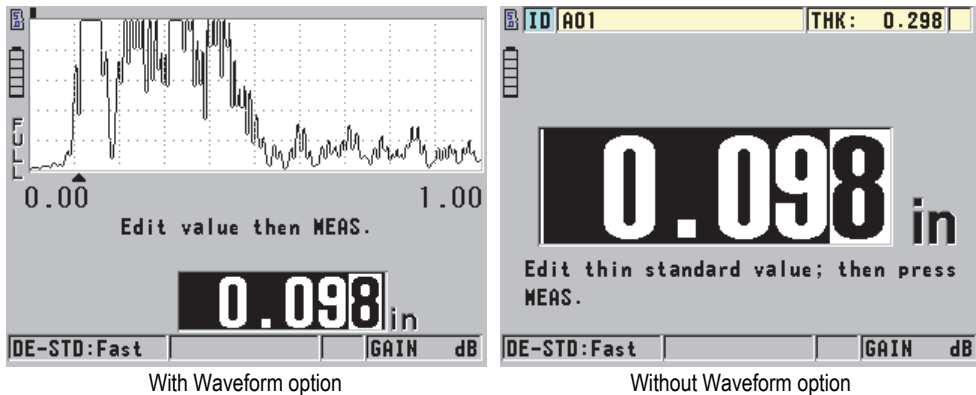

Figure 5-7 Performing the zero calibration on a five-step test block
2. To perform the zero calibration using an instrument with or without the Waveform option (see Figure 5-7 on page 67):